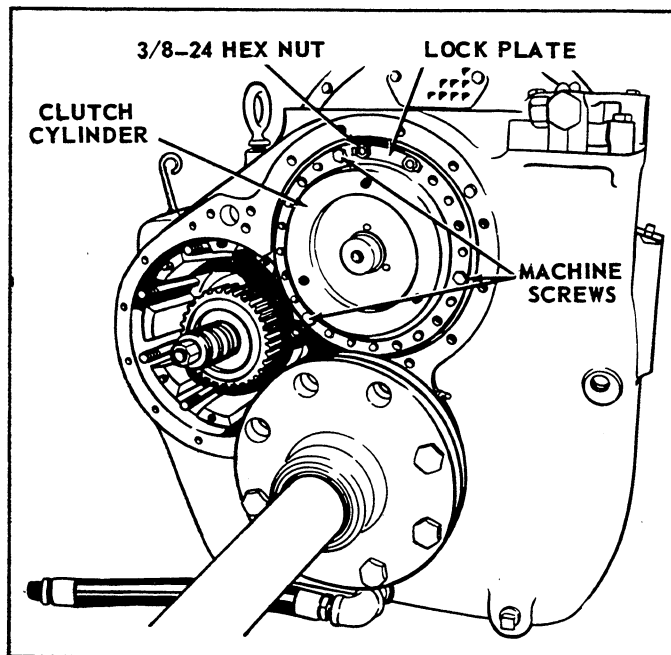

Figure 29. Installing the Clutch Cylinder on the Spider.
(1) Place the new clutch plates in position in the clutch spider. Use eight sintered-metal clutch plates and seven steel clutch plates. Alternate the clutch plate stack; begin with a sintered-metal plate and end with a sintered-metal plate. Install the twelve release springs on the split sleeves installed on the studs in the clutch spider. Install new piston rings, if necessary, in the clutch shaft, clutch piston, and clutch cylinder. Place the clutch piston in position in the clutch cylinder.
(2) Place the clutch cylinder (Fig. 29), with piston in position against the clutch spider. Use three 3/8-16 NC x 1 fully-threaded machine screws (Fig. 29) to hold the cylinder to the spider against the tension of the springs. Install six lock plates (Fig. 29) and twelve 3/8-24 hex nuts on the studs on the clutch spider. The center of each lock plate must cover a roll pin. Tighten the hex nuts to 34-38 lbs.-ft. torque, and lock in place by bending the lock plates. Remove the three hold-down machine screws.
(3) Place the ball bearing in position on the forward clutch shaft. Use Special Tool T-6984